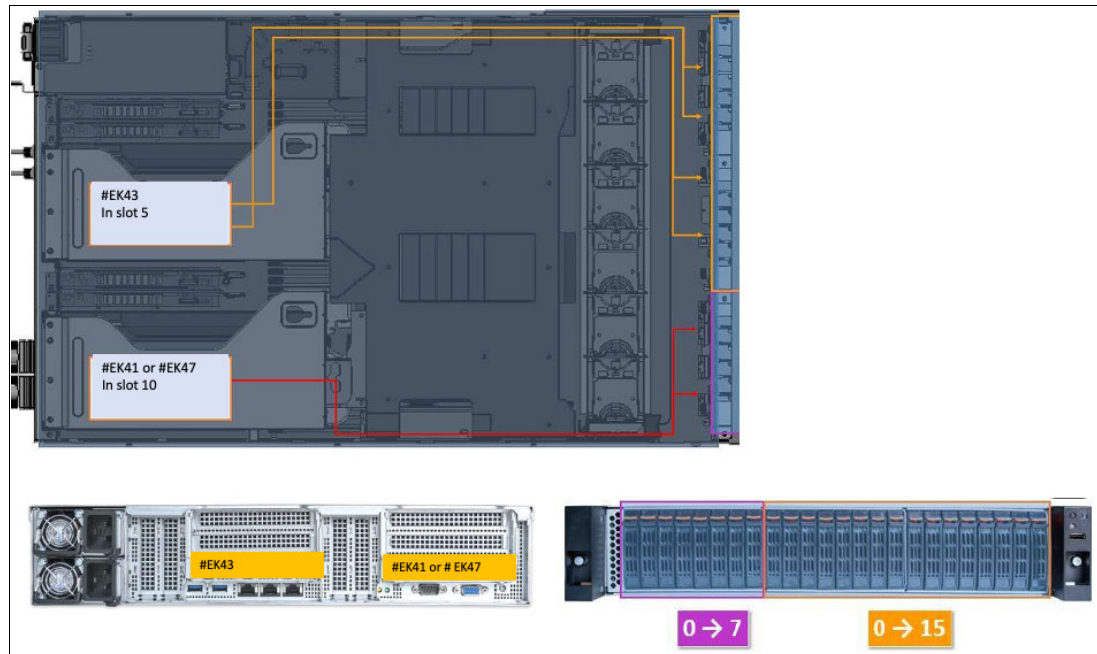

Figure 1-18 Two SAS/SATA HBAs and three SAS/SATA drive backplanes
- ▶ One FC EK41 or FC EK47 HBA in PCIe slot 5, one FC EK42 in PCIe slot 10, and three 2.5-inch SAS/SATA drive backplanes (FC EK36) (Figure 1-18)